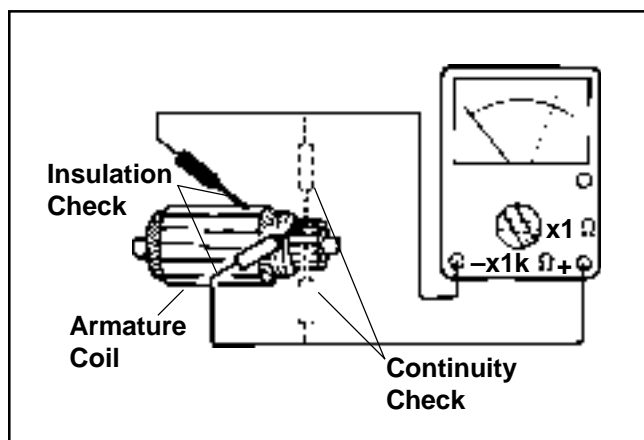

Figure 8-36. Armature Checking.
1. Use an ohmmeter set to the Rx1 scale. Touch the probes between two different segments of the commutator, and check for continuity. See Figure 8-36. Test all the segments. Continuity **must** exist between all or the armature is defective.
2. Check for continuity between the armature coil segments and the commutator segments. See Figure 8-36. There should be no continuity. If continuity exists between any two, the armature is defective.
3. Check armature windings/insulation for shorting. See Figure 8-36.